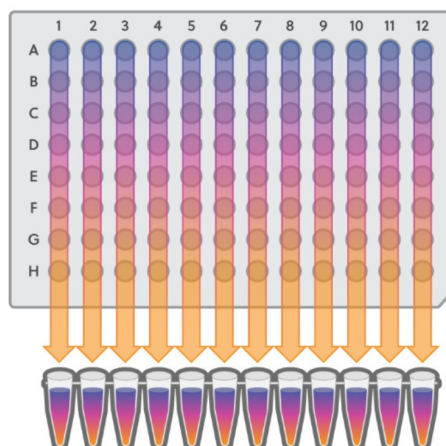

Figure 10: GeoMx Hyb Code and aspirate pooling
- Pool the products by column into a 12-well strip tube (see Figure 10). When using the MAX/FLEX/Pro system, use NanoString-supplied strip tubes and ensure they are oriented correctly (notch after position 1 and 8).